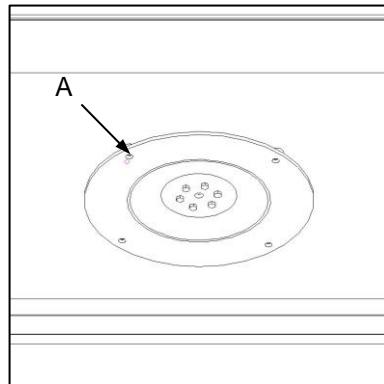

Fig. 6
- ✓ Check blade mounting holes (Fig. 6-A) for signs of wear, elongation or fractures. In the event of any observed defect do NOT attempt a repair, but provide immediate replacement of the defective disc.
- ✓ Gaan lemmonteringsgate (Fig. 6-A) na vir tekens van slytasie, vergroting of breuke. In die geval van enige waargenome defek, moet NIE probeer om dit herstel nie, maar vervang die defekte skyf onmiddellik.